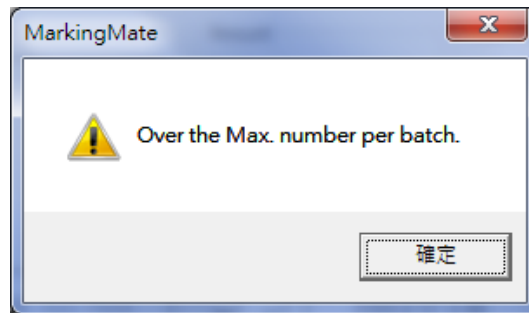

Fig. 3.1.07
**Show message when finish a batch:** The system will pop up a warning dialog box like Fig.3.1.07 when reach the value of Batch Amount if the option has been checked.